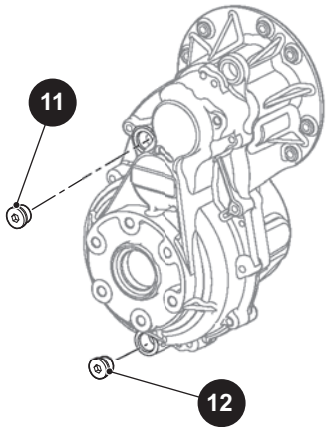

Fig. 1 Check, Add or Drain Rear Axle Lubricant
Clean the area around the check/fill plug (11). Remove the check/fill plug (11) (Ref. Fig. 1).